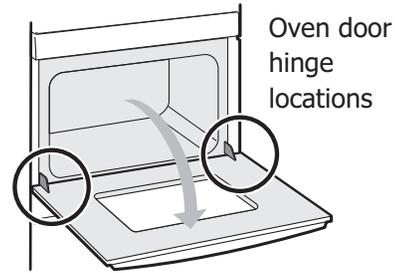

Figure 23: Door hinge location
1. Open oven door completely horizontal with floor (See Figure 23).
3. Fully open the oven door, horizontal with floor See Figure 23).